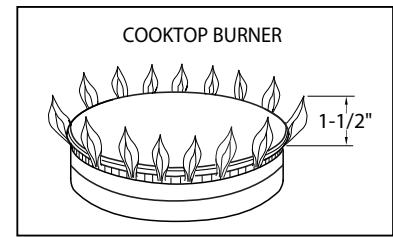

FIG. 11
*No air shutter adjustment is possible on the cooktop burners. Burner flames should be blue and stable with no yellow-tipping (some yellow-tipping is normal with LP gas), excessive noise, or lifting of flame from the burner (Fig. 11).*